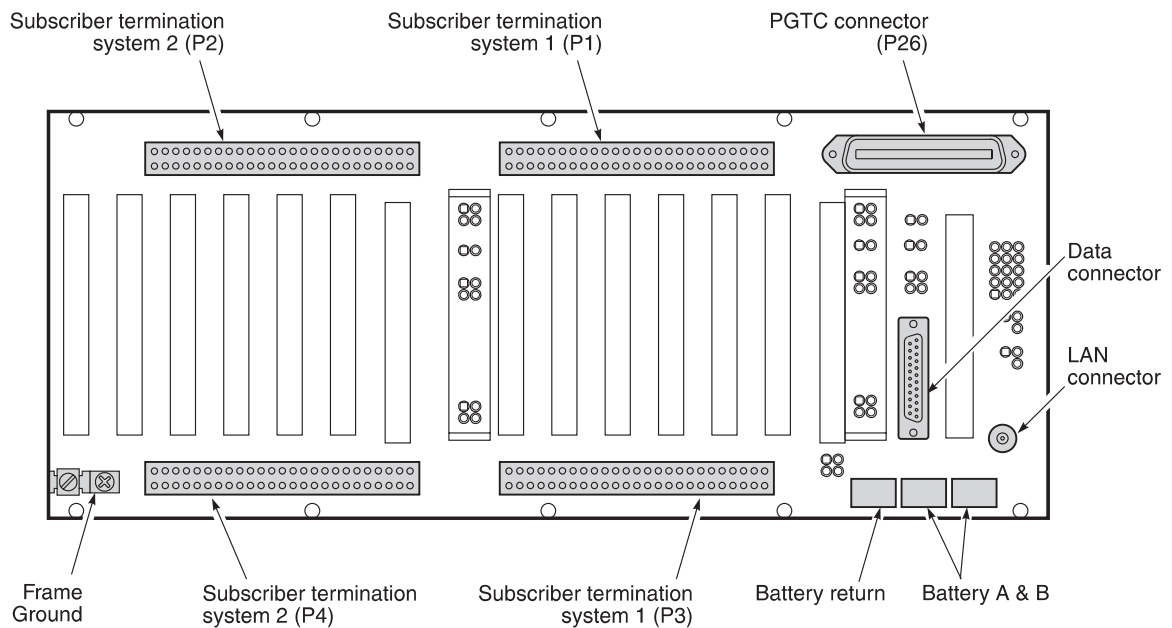

Figure 2. COT Shelf Backplane
4.3 Table 8 lists the FCS-718 backplane connectors (Figure 2) and where each is described in this practice.